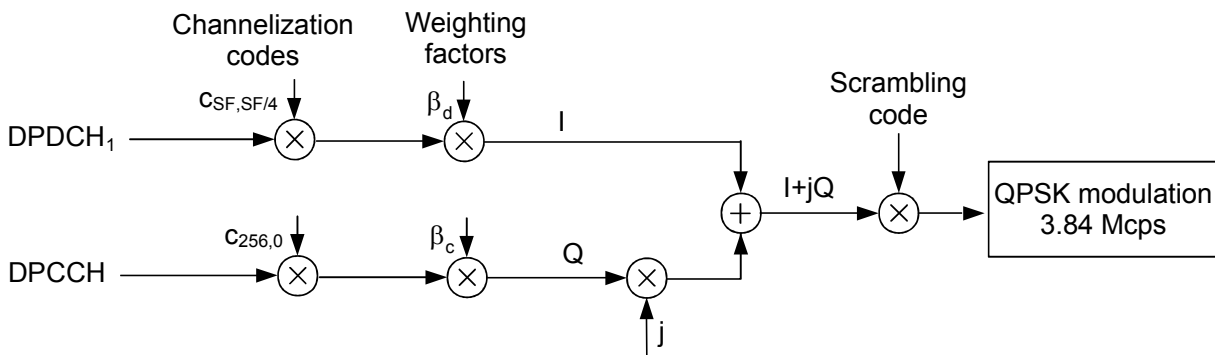
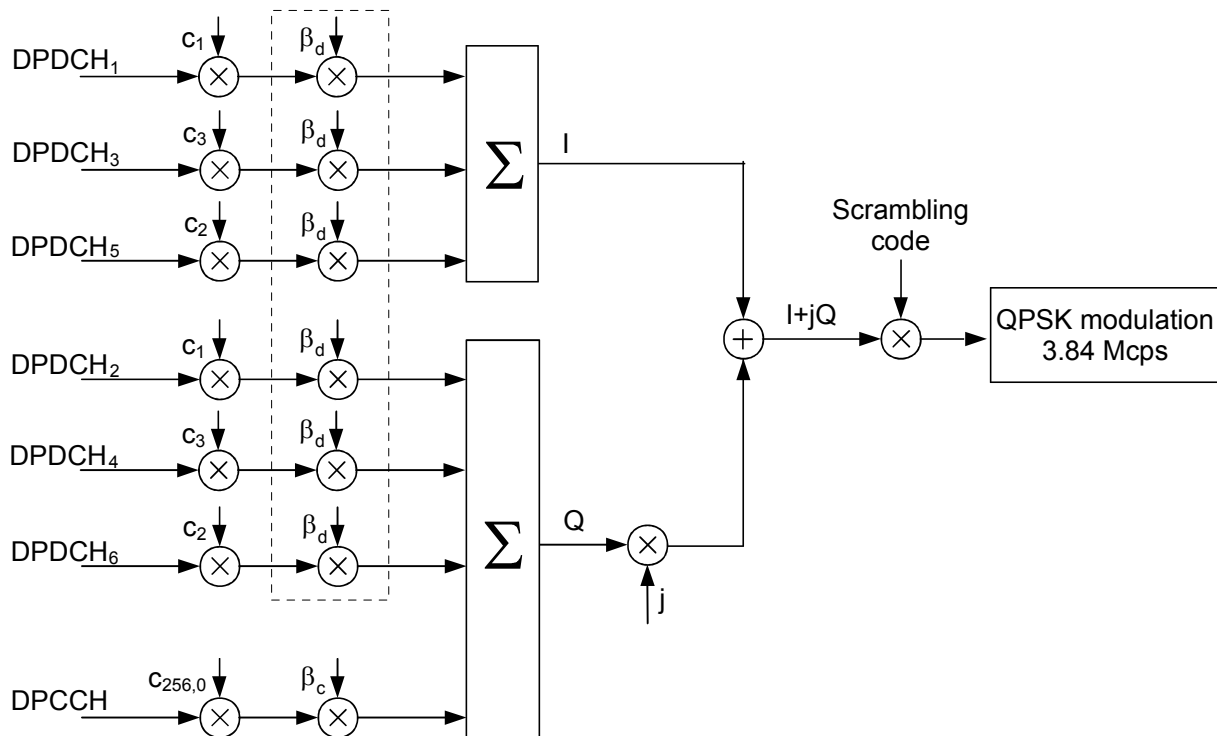

Fig. 4-16 Uplink WCDMA signal with up to 1 data channel
Fig. 4-17 Uplink WCDMA signal with up to 6 data channels
- The *QPSK²* mode is used to measure the QPSK modulated signal with a chip rate of 3.84 Mcps. Examples of valid signals are a single DPCCH signal, a single DPDCH signal or a combination of a DPCCH with one DPDCH (see Fig. 4-16 on p. 4.44) and equal gain factors: The DPCCH and the DPDCH are summed to a complex-valued signal with a constellation diagram that is still QPSK-like). The channelization code, scrambling code and the symbol rate are irrelevant to the measurement. This mode is faster than the *WCDMA* mode and is useful to adjust the modulator of the UE transmitter (see description in section QPSK Measurements \(Modulation – QPSK\) on p. 4.46).
The actual modulation vector of the output signal of the UE under test is measured over a complete slot and stored as Z , using a matched filter (an RRC filter with a roll-off $\alpha = 0.22$ and a bandwidth equal to the chip rate). A reference signal R with variable timing, RF carrier frequency f_{Carr} and power (gain factors; see Fig. 4-16 on p. 4.44 and Fig. 4-17 on p. 4.45), is constructed mathematically and filtered by the same matched filter.
The WCDMA signal is composed of one control channel (DPCCH) and n data channels (DPDCH), where n is between 0 and 6. The symbols of all channels are first spread to the chip rate by the channelization codes c , weighted by gain factors β and summed to form a complex-valued stream of chips. This complex-valued signal is then scrambled by a long or short scrambling code and finally QPSK modulated. For a WCDMA signal consisting of the DPCCH plus one DPDCH, the different spreading and modulation stages are shown in see Fig. 4-16 below.
According to the standard, the DPCCH is always spread with code $c_{256,0}$, corresponding to a symbol rate of 15 kbps. In the signal configuration of Fig. 4-16, where one DPDCH is transmitted, spreading factors of 4, 8, 16, 32, 64, 128 or 256 may be used, and the corresponding DPDCH channelization codes are $c_{SF,SF/4}$. The CMU sets the spreading factor implicitly as the symbol rate for the first DPDCH can be selected. With several DPDCHs, $DPDCH_n$ is spread by $c_{4,k}$, where $k = 1$ if $n \in \{1, 2\}$, $k = 3$ if $n \in \{3, 4\}$, and $k = 2$ if $n \in \{5, 6\}$. The corresponding signal configuration is shown in Fig. 4-17 below.